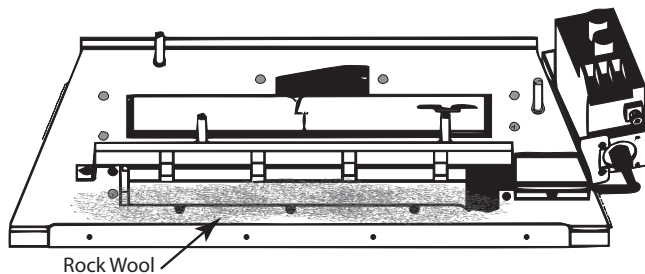

Figure 6.10 - Installing Rock Wool
- Before installing logs, place rock wool in front of the grate. Loosely apply nickel size pieces to allow the gas to flow through for proper burn and not to be obstructed. Failure to do so would cause a higher level of CARBON MONOXIDE. See Figure 6.10.